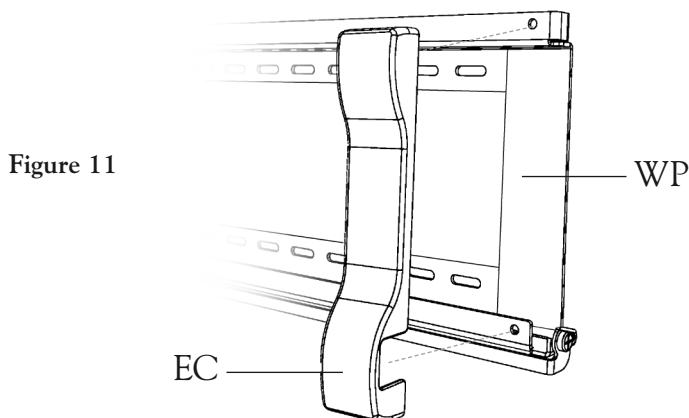

Figure 11
This kit includes decorative End Covers (EC) to make your bracket installation look clean and finished. Line up the cover with the end of the bracket, and press into place. Look for two holes in the frame of the bracket, which the end cover inserts into, as shown in Figure 11.